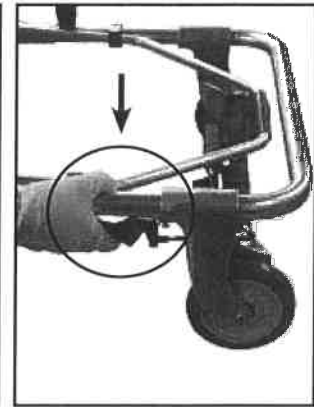

Figure 9 - 35X-ST Handle
- **35X-ST:** Release the cot from the safety stop by squeezing the handle (Figure 9).